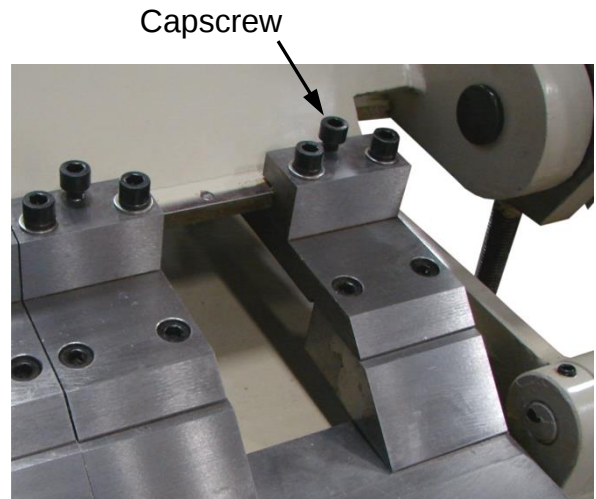

figure 3
2. Now for each finger block, loosen the capscrew shown in (fig. 3) and slide the finger assembly off of the finger guide.